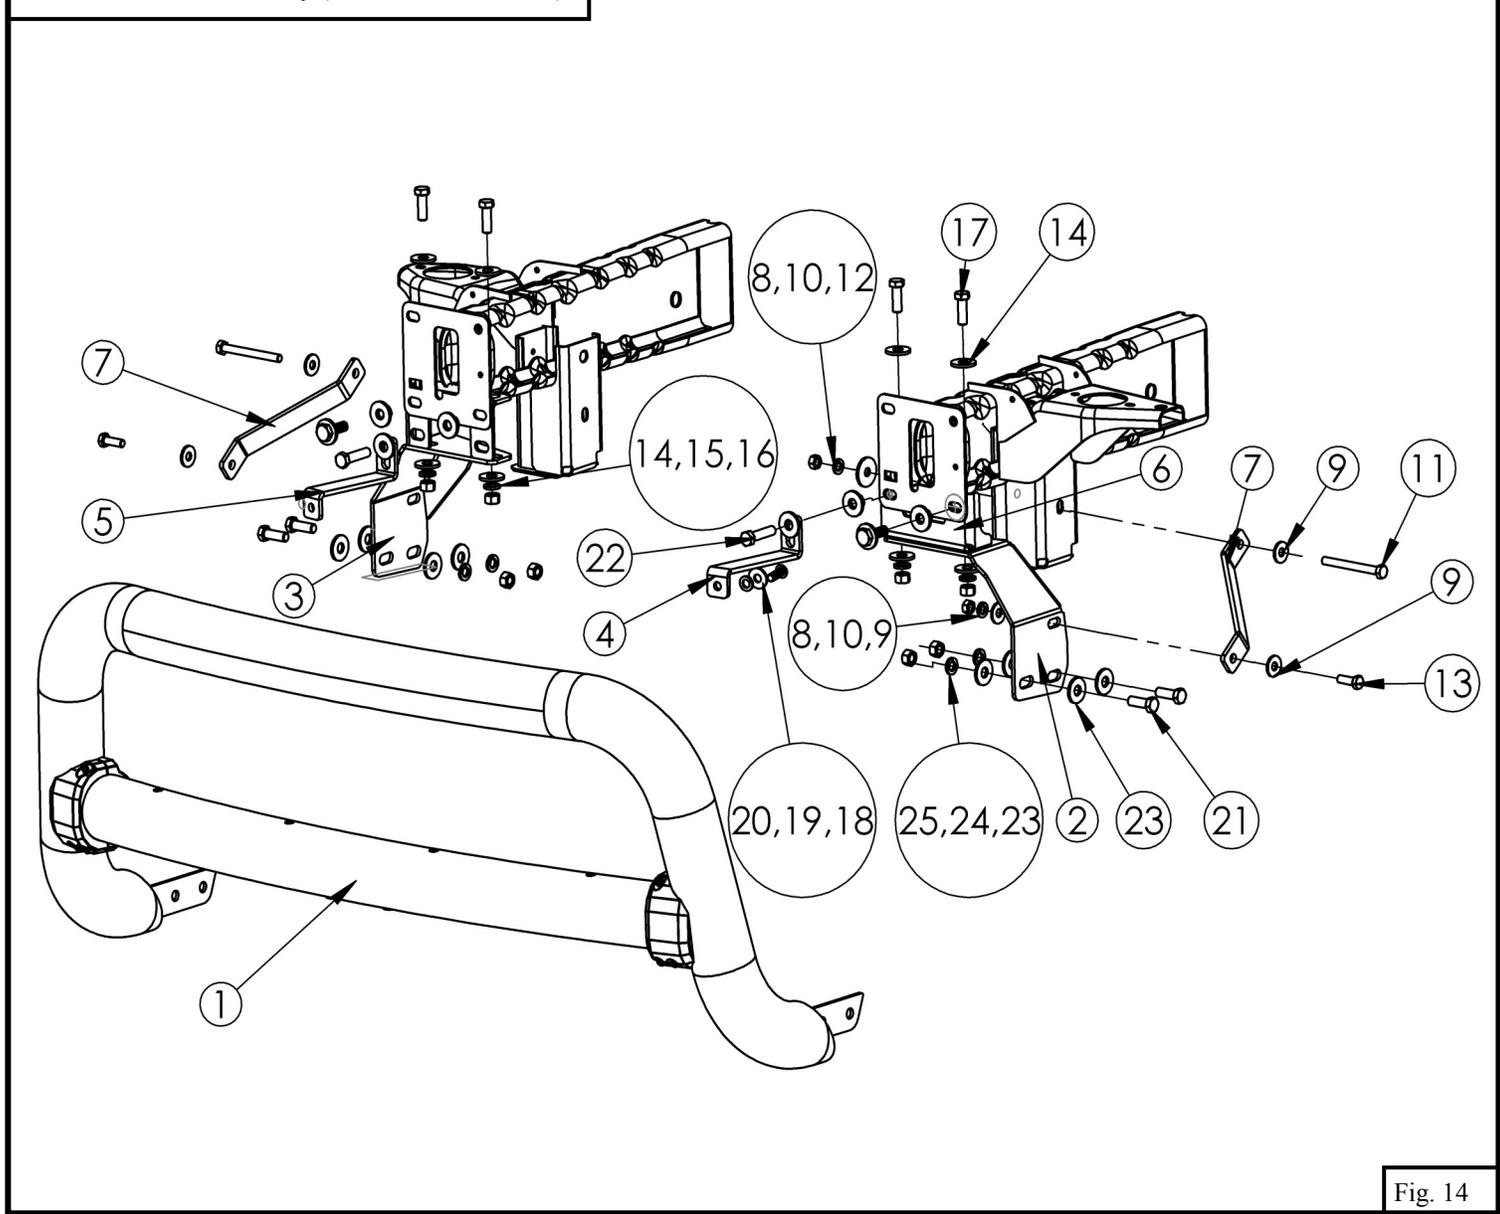

Fig. 14
- A. **Vehicles w/o tow hooks:** Attach the lower mounting bracket (**Item #2**) to the previously installed upper frame bracket (**See Figure 9**) using (2) M12 hex head cap screws (**Item #17**), (4) M12 flat washers (**Item #14**), (2) M12 split lock washers (**Item #15**), and (2) M12 hex nuts (**Item #16**). See **Figure 14** for a picture showing the hardware used.
8. Loosely attach one end of the lower support strap to the lower mounting bracket using (1) M10 hex head cap screw (**Item #13**), (2) M10 flat washers (**Item #9**), (1) M10 split lock washer (**Item #10**), and (1) M10 hex nut (**Item #8**). The other end of the lower support strap will be mounted to the vehicle's frame in the location shown in **Figure 13** using (1) M10 hex head cap screw (**Item #11**), (1) M10 flat washer (**Item #9**), (1) M10 large flat washer (**Item #12**), (1) M10 split lock washer (**Item #10**), and (1) M10 hex nut (**Item #8**). Refer to **Figure 14** for a picture showing the mounting hardware.
10. With assistance, hold the bull bar up in position on the outside of the lower mounting brackets. Loosely install the bull bar to the brackets with (4) M12 hex head cap screws (**Item #21**), (8) M12 flat washers (**Item #23**), (4) M12 split lock washers (**Item #24**), and (4) M12 hex nuts (**Item #25**). (**FIG 14**)
11. Loosely install the other end of the support straps to the bull bar using (2) M10 hex head cap screws (**Item #18**), (2) M10 flat washers (**Item #19**), and (2) M10 split lock washers (**Item #20**). (**FIG 14**)